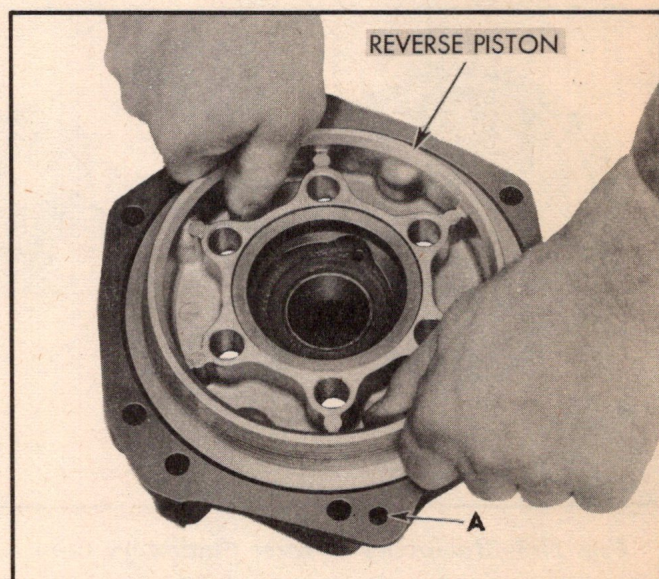

Fig. 150—Removing Reverse Piston
10. Remove reverse piston by pulling straight out (Fig. 150). (Do not try to turn piston since it is located by four dowel pins.)
NOTE: It may be necessary to apply air pressure behind piston to aid in removal. Apply pressure in small hole at "A" in Fig. 150. *Extreme caution must be used when applying air.*